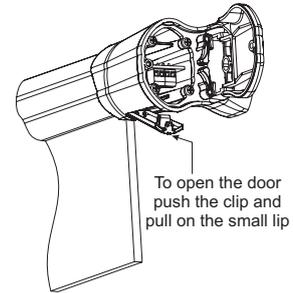

Fig 2-5: Opening The Access Door
To open the door push the clip towards the sign and pull down on the small lip, see Fig 2-5. Do not attempt to remove the door from the end moulding. Access to the connection block and the mode switches is possible with the door fully open.
To enter programming mode, open the Access Door (See Fig 2-5) which exposes the infra-red receiver. Then point the remote control unit at the opening and press & hold the PROGRAM (7) button for 3 seconds until the LEDs in the main sign quickly cascade away & to the opening. This indicates that the unit is in the Programming Mode.